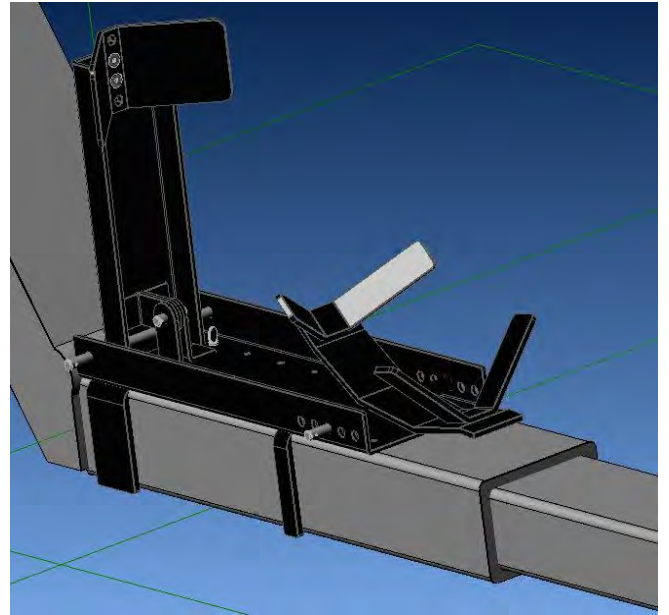

Figure 2
3. Slide unit (A) with mounting brackets (B) over the lower unit and position the Condor® SC-2000 Wheel Chock completely to the front of the lower unit as shown in Figure 2. At this time the cradle position can be adjusted to the appropriate setting for the bike being transported. See **RECOMMENDED CRADLE SETTINGS** section below and refer to **Supplemental Cradle Recommendations** manual supplied with the Condor™ Wheel Chock for additional information.